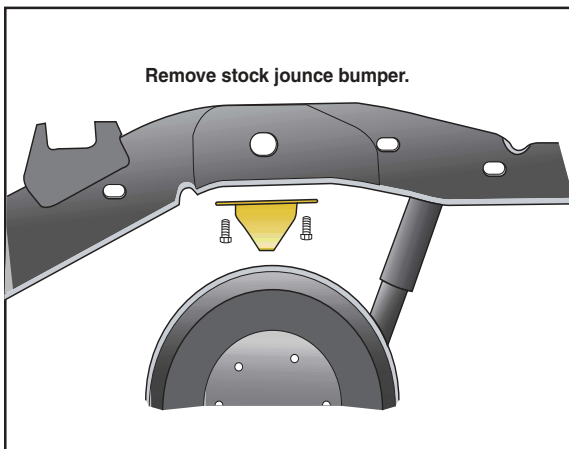

Figure 3
2. Remove the jounce bumper by removing the two bolts that attach the bumper to the frame. Save the bolts for later use (Figure 3).
Stability translates into safety and should be the priority, meaning the driver may need to sacrifice a perfectly level and comfortable ride. Stability issues include roll control, bounce, dive during braking and sponginess (fig. 3). Tuning out these problems usually requires an increase in pressure.